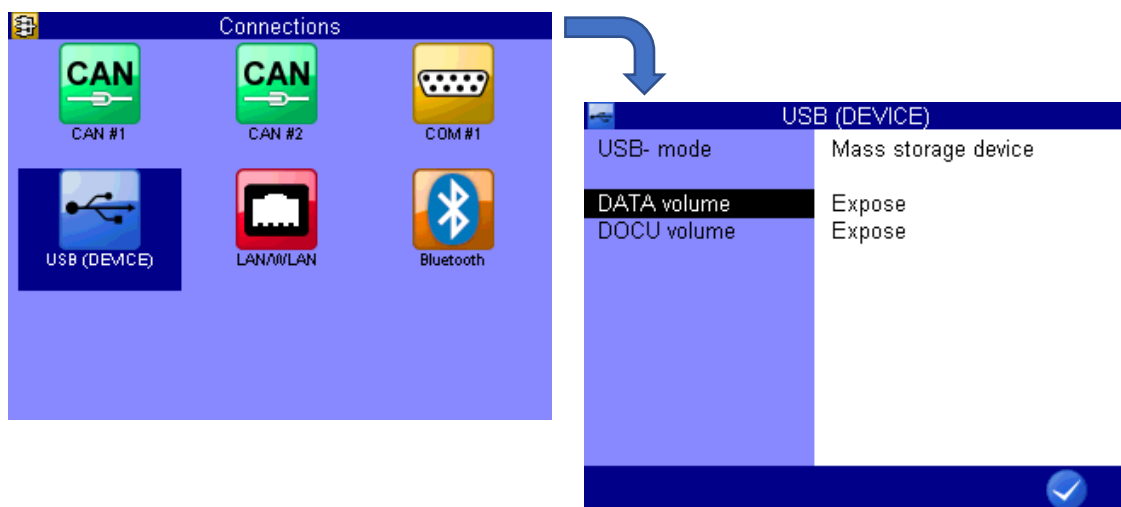

Figure 21: Enabling internal memory for the data export
- The menu window depicted on the right in Figure 21 appears. Change the DATA volume element to “Enable.”